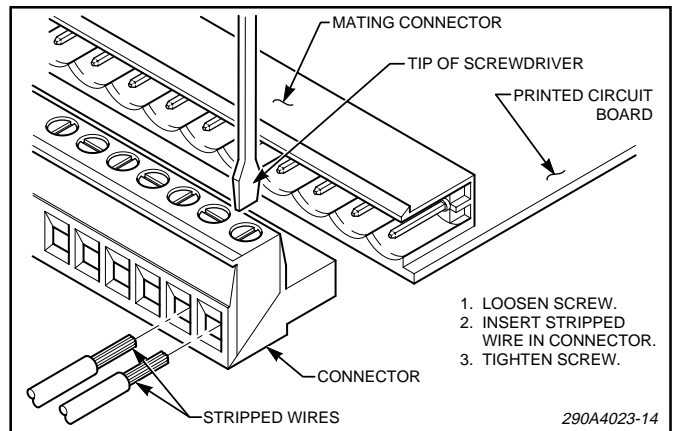

Figure 3-12. SignalMaster Eleven-position Connector.
d. Strip 1/4" of insulation off each wire at the eleven-position connector end. Insert the eight 22-gauge wires, the 16-gauge red wire, and the 14-gauge red and black wires into the connector as shown in figure 3-12. Tighten the screw at each connector position to secure the wires in the connector.